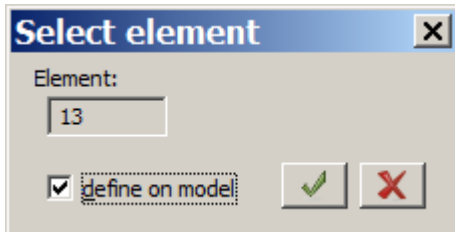

Figure 12.32 **Select element** dialog box
- ⇒ In the **Select element** dialog box (see Fig.12.32), select the **define on model** check box, select with the pointer column No. 13 (its number will be displayed in the dialog box).